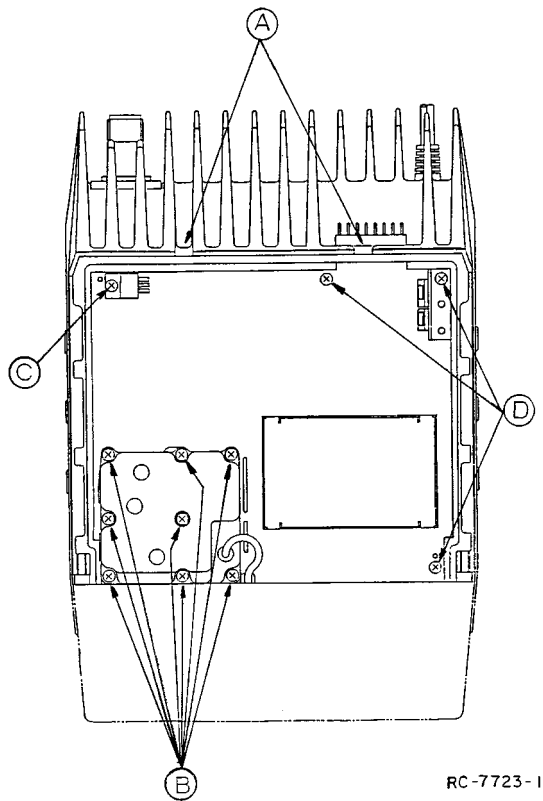

Figure 2 – Disassembly Procedure (Top View)
1. Remove the two (2) screws **(A)** securing the top cover (refer to Figure 2). Remove the top cover. Then disconnect the interconnecting cables.
2. Remove the eight (8) screws **(B)** securing the Synthesizer shield. Remove the shield.
3. Remove the three (3) screws **(D)** securing the board.